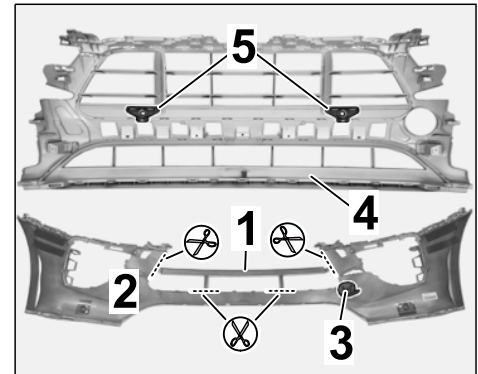

Figure 5
- 2.1 Cut out transport lock on front apron (⇒ *Figure 5*).